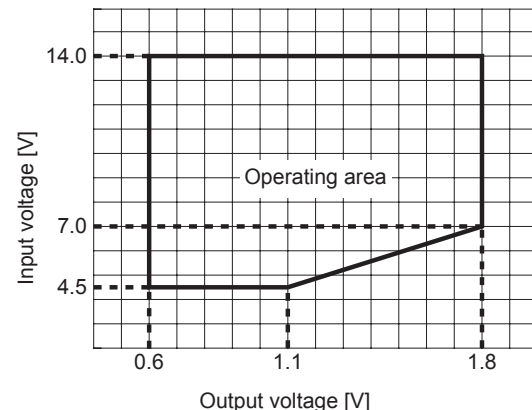

Fig.4.6 Operating area
- The output voltage should be set within the range of Figure 4.6 (only BRFS150).